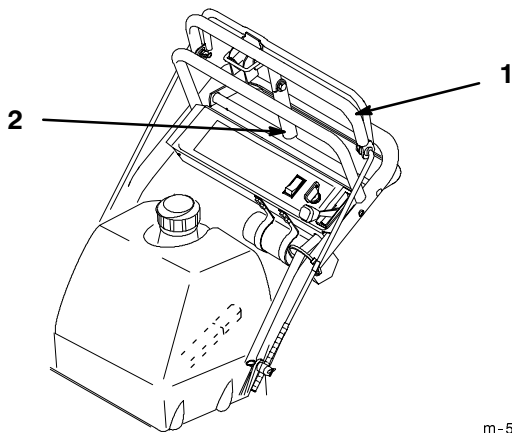

Figure 11
1. Pull the upper control bar (Fig. 11) rearward and hold it in this position.
2. Lift the parking brake lever (Fig. 11) up and gradually release the upper control bar.
1. Pull rearward on the upper control bar (Fig. 11).